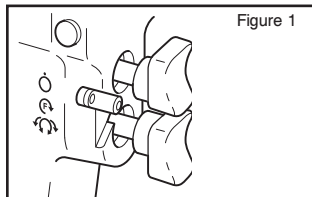

Figure 1
1. Rotate the safety switch to the **safety** position to activate safety. Figure 1.